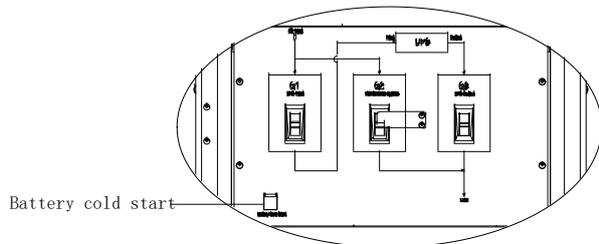

Fig. 50. Location of Battery Cold Start Button
2. Press the cold start-up button (see as fig. 50) under the rectifier input circuit breaker for 1 seconds